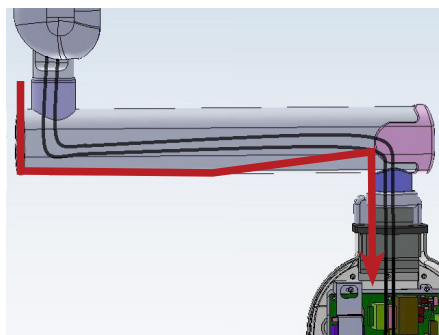

Figure 57
- Route the scissor-arm cables through the straight-arm till it comes inside the base unit (Use guide wire for routing and guide with finger from the slots available bottom side of the straight arm) as shown in Figure 57 .